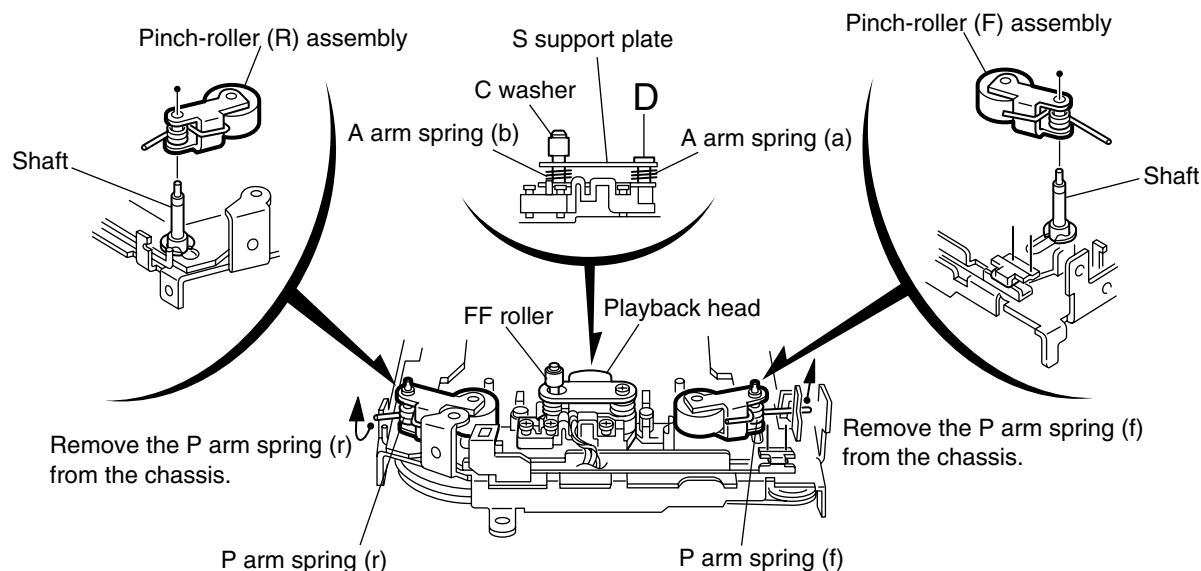

Fig.2
■ Removing the playback head (See Fig.2)
■ Removing the pinch-roller (R) and (F) assembly (See Fig.2)
1. Remove the P arm spring (f) in the pinch-roller (F) assembly from the chassis.
2. Remove the P arm spring (r) in the pinch-roller (R) assembly from the chassis.
3. Draw out the pinch roller (F) and (R) assembly from the shaft.